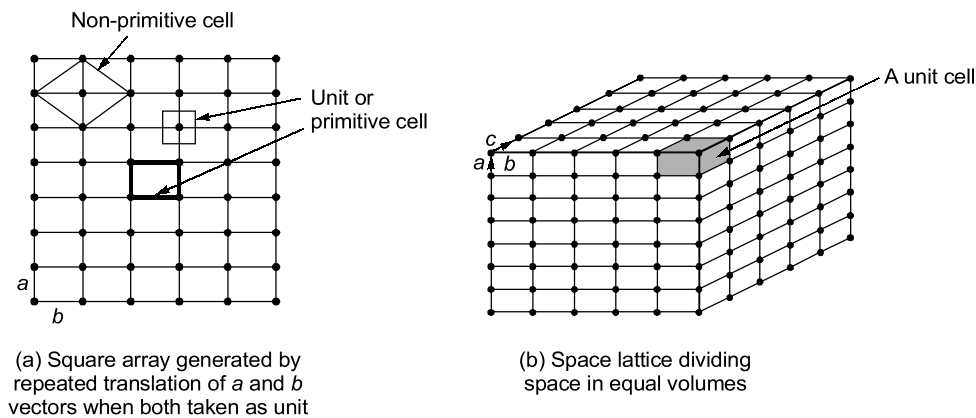

Fig. 3.2 Space lattice generated by repeated translation of a , b and c vectors
- A two dimensional square array of points forming a square lattice is as shown in figure 3.2 (a). It is generated by repeated translation of vectors a & b . Similarly, a three dimensional space lattice can be generated by repeated translation of vectors a , b and c as shown in figure 3.2 (b).
- A space lattice can be defined by referring to a unit cell. The unit cell is the smallest unit which, when repeated in space indefinitely, will generate the space lattice. A unit cell in 2 dimensions is the square which can be obtained by joining four neighbouring lattice points as shown in figure 3.2 (a).
- In case, we take the unit cell with one lattice point at the centre of the square as shown in figure 3.2 (a) and with none at the corner, then also the effective number of lattice points in the unit cell remains only one.
- The unit cells which contain more than the one lattice points are called non-primitive cells as shown in figure 3.2 (a) where the non primitive cell has two lattice points.